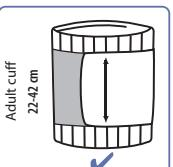

Fig. 5
- This cuff is suitable for use if the arrow heads fall within the stripe pattern on the other side of the cuff when the cuff is tightened around your arm (Fig. 5).